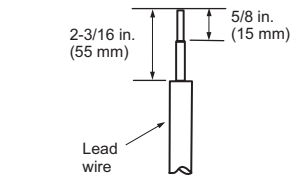
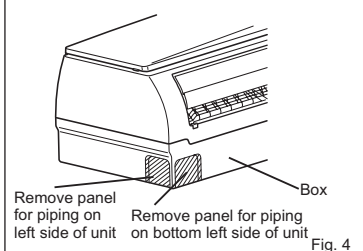

Fig. 3
Fig. 4
- Process the end of ground wire (Fig. 3). Connect it to the ground terminal of electrical parts box.
- Process the end of indoor/outdoor unit connecting wire (A) (Fig.3). Attach it to the terminal block. Be careful not to make mis-wiring. Attach the wire to the terminal block securely so that its core cannot be seen, and no external force affects the connecting section of the terminal block.
- According to the piping direction, remove the shaded part of the left side of box (Fig.4) or corner box (Fig. 5).
- Cut L-joint (10) at the position shown in Fig. 3.
- Remove union nut from the unit and install it to L-joint (10).
- Flare end of L-joint (10).
- 2) Use two torque wrenches to tighten the nut. (tighten torque 65 N•m) (Fig. 4)
- 3) Install charge nut (9) to the liquid refrigerant piping, which connects the indoor and outdoor unit.
- 4) Put the drain cap into the section to which the drain hose is to be attached at the rear of the indoor unit. (Fig. 3)
- 5) Insert the drain hose fully into the drain pan at the back right of the indoor unit. (Fig. 4)
- 6) Insert the drain hose into wall hole sleeve (C), and attach the upper part of indoor unit onto the installation plate (1). Then, shift the indoor unit completely to the left to make placing the piping in the back of the unit easier.
- When connecting the drain hose to a hard vinyl chloride pipe, be sure to insert it securely into the pipe. (Fig. 3)
- 2) Remove all burrs from the cut section of the pipe, ensuring that precautions are taken to avoid getting metal shavings into the piping. (Fig. 3)
- 4) Flaring work (Fig. 4, 5). Firmly hold copper pipe in the dimension shown in the table. Select A mm from the table according to the tool you use.